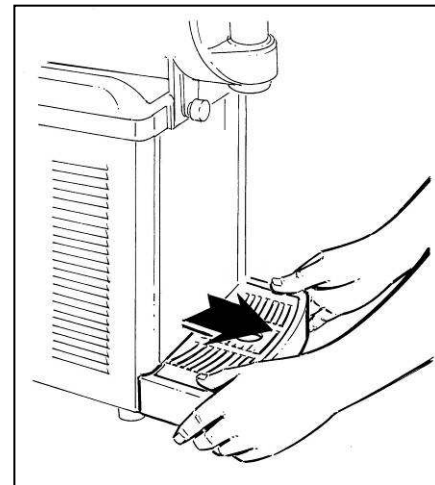

Fig. 17
- Remove the drip tray pulling it outward (fig.17).